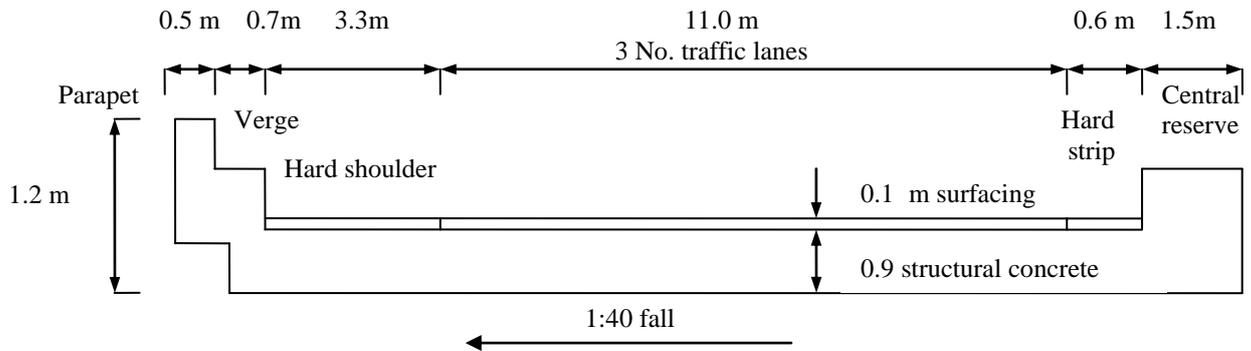

Figure 1.0
- (b) Fig 1.0 shows the cross-section of a highway underbridge of composite slab, zero skew and a span of 15 m. The bridge is situated in Kuala Kurau area at a site which is 120 m above sea level and there are no special funneling, gust or frost conditions. The anticipated effective bridge temperature at the time of setting the bearing is 16°C. Assume open parapet.